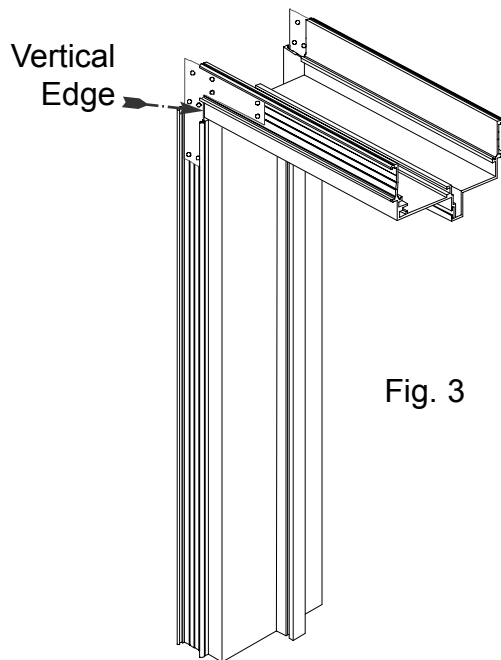

Fig. 3
- a.) If doors are not premortised, then use a square to attain a  $90^\circ$  corner between head & jambs. Head must butt up to vertical edge of clip (Fig. 3) and set flat in alignment groove (Fig. 4). You can then attach clips.
9. Pull header down to door, allowing 1/8" spacing. Install corner clips (Fig. 3 & 4) and secure to wall.